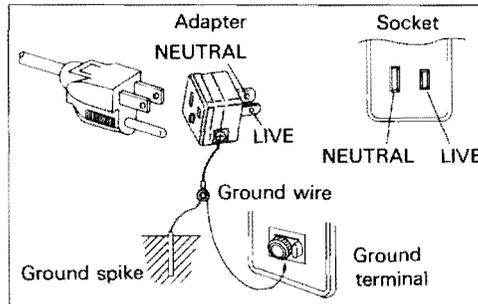

Fig. 2-22
- When the receptacle is not a double-pole ground type, use a plug converting adapter (Fig. 2-22).